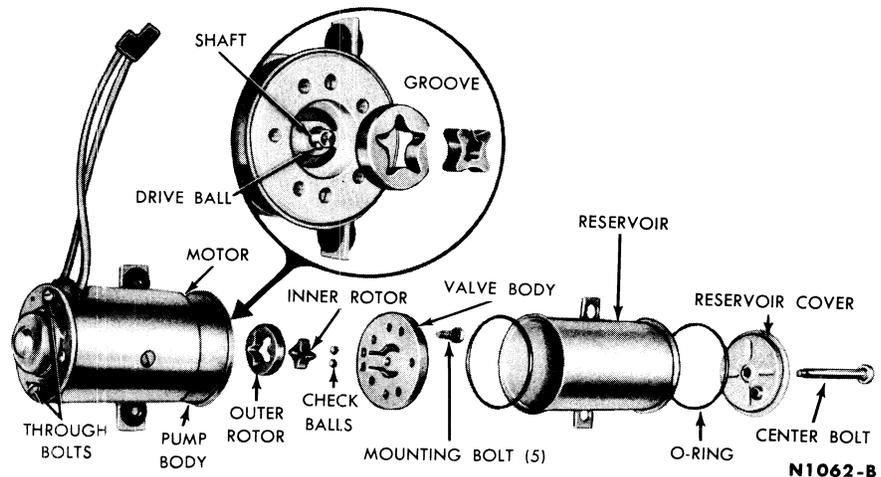

FIG. 23—Motor and Pump Disassembled
3. Remove the center bolt from the reservoir cover (Fig. 23).
7. Remove both rotors and the drive ball (Fig. 23).